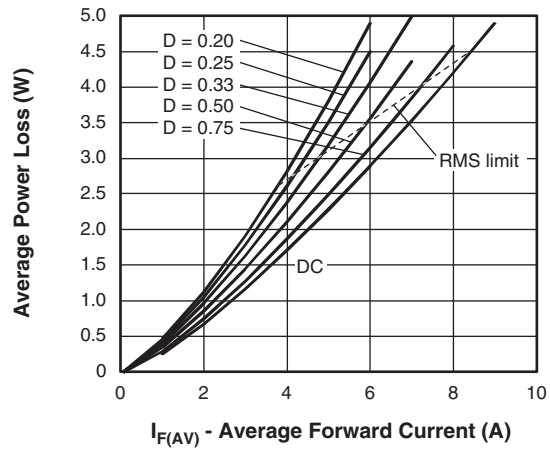

Fig. 6 - Forward Power Loss Characteristics (Per Leg)
- (1) Formula used: $T_C = T_J - (P_d + P_{dREV}) \times R_{thJC}$;
- P_d = Forward power loss = $I_{F(AV)} \times V_{FM}$ at $(I_{F(AV)}/D)$ (see fig. 6);